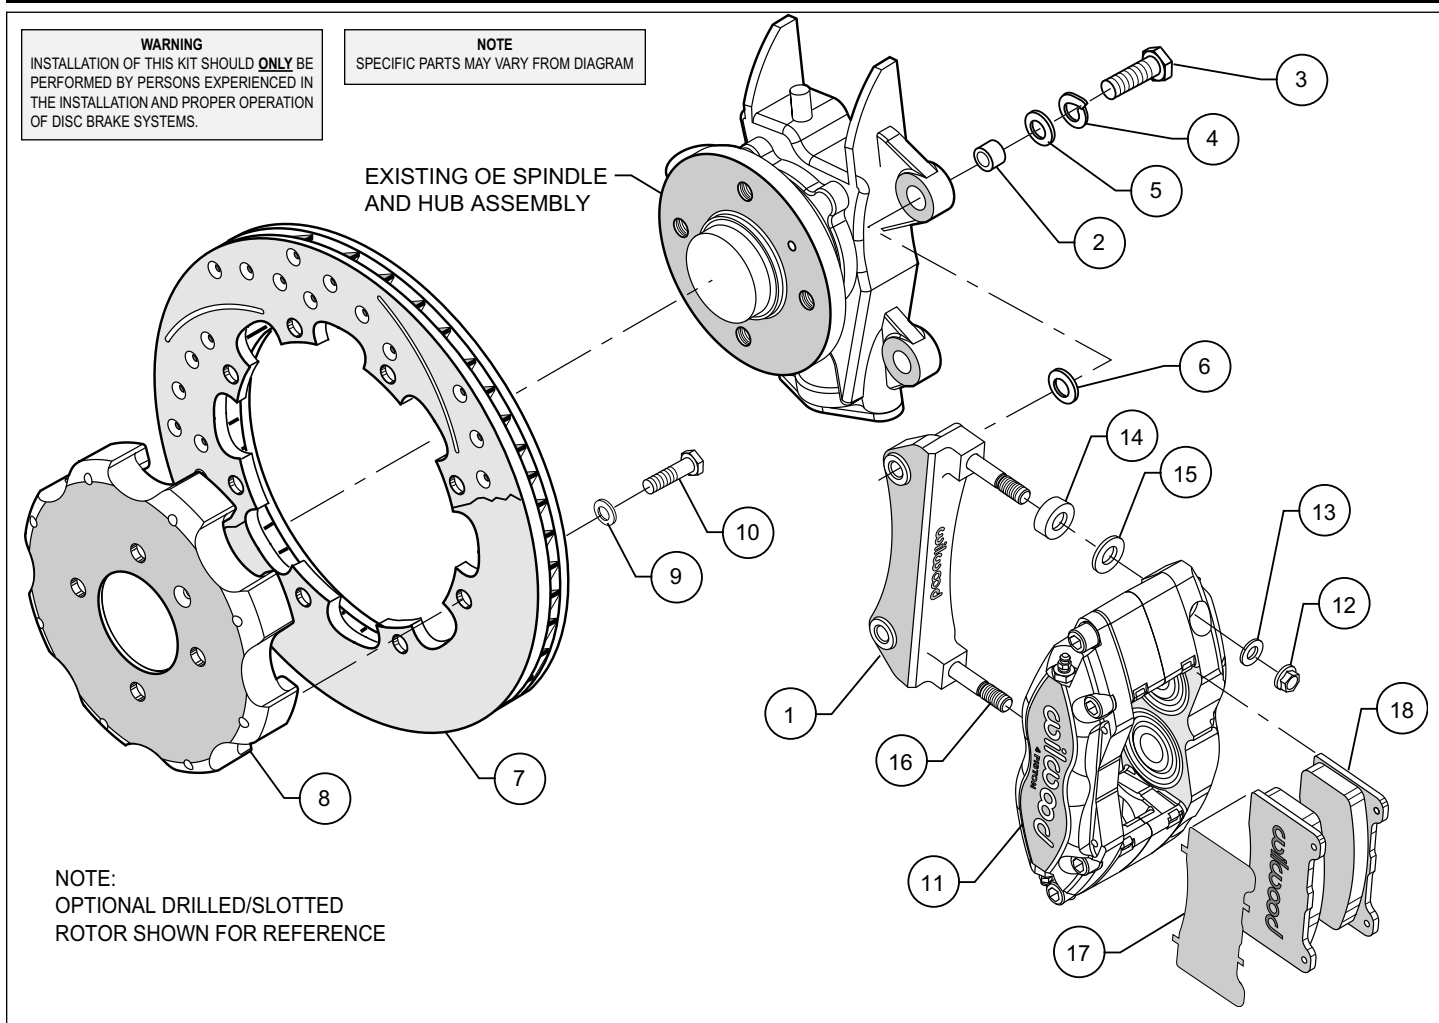

Figure 1. Typical Installation Configuration
- Insert one sleeve (2) each into the holes on the top and bottom of the spindle “ears” where the OEM caliper bracket was removed. The caliper mounting bracket assembly (1) should be installed first with clean, dry threads on the mounting bolts. Install the bracket from the rear side of the spindle by sliding bolts (3) through lockwasher (4) and flatwasher (3). Place shim washer (6) between the bracket (1) and the spindle (see Figure 1). The bracket must tighten squarely against the side of the spindle body. Inspect for interference from casting irregularities, machining ridges, burrs, etc. Use one thin shim (6) between the spacer and spindle during initial trial fitting.